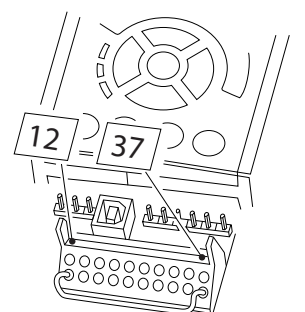

Figure 2.1 Bridge jumper between terminal 37 and 24 VDC
1. The bridge (jumper) between Terminal 37 and 24V DC must be removed. Cutting or breaking the jumper is not sufficient. Remove it entirely to avoid short-circuiting. See jumper on *Figure 2.1*.